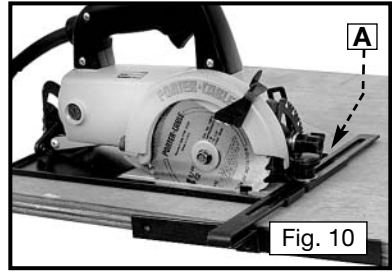

Fig. 10
For narrow rip cuts, use the rip guide (A) Fig. 10 (available as an accessory). Guide the saw by keeping the inner face of the rip guide (A) tight against the edge of the board.